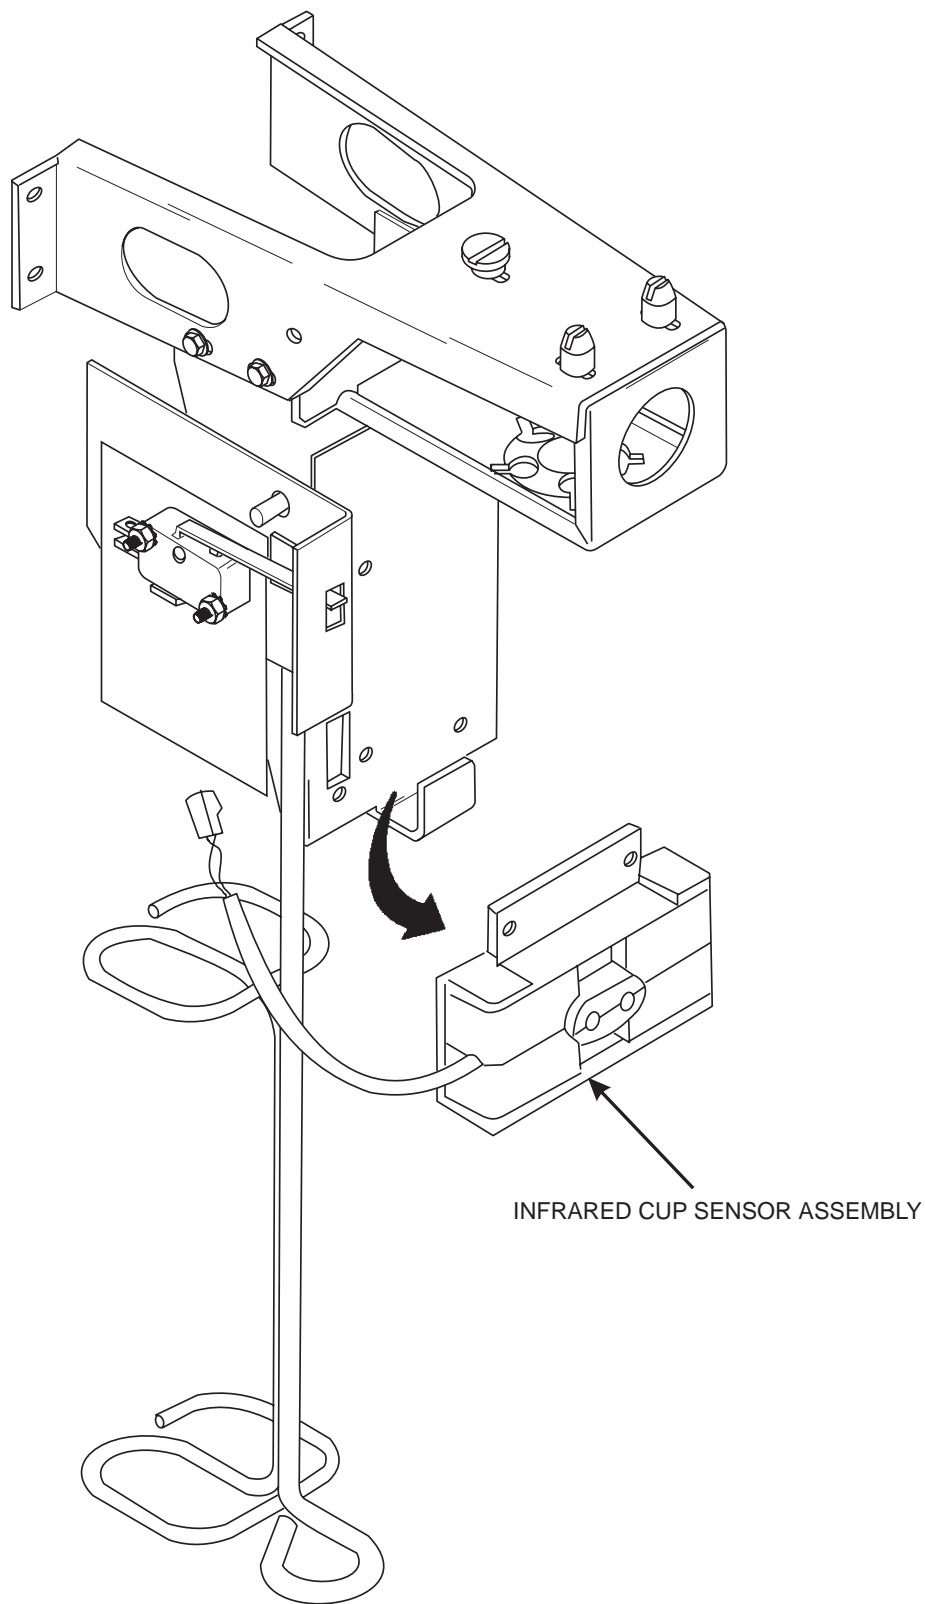

Figure 2.
2. Disconnect the wiring harness from the infrared cup sensor assembly (if installed), and remove the infrared cup sensor from the machine (figure 2). Keep mounting screws for later use.